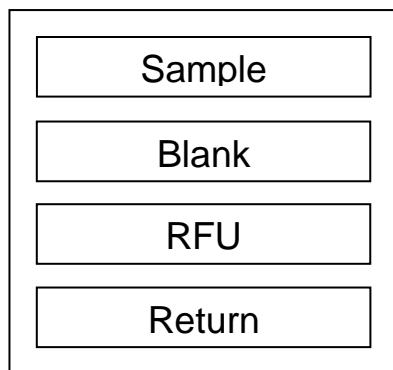

Figure 5. **Measure** screen
- b. Touch “**Measure**” tab on the “**Main Menu**” screen to enter the measurement selection screen as shown in Fig. 5. In the screen you can select “**Sample**”, which will measure a